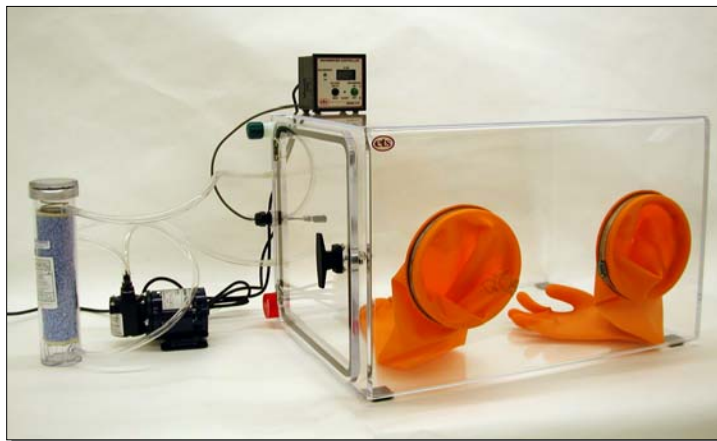

Figure 3.2-5: Model 5503 Package E installation **No 5506**
1. Locate the desiccator at a convenient location near the left-hand side of the chamber. Place the pump at a convenient location near the desiccator or on the floor as shown in Figure 3.2-5.